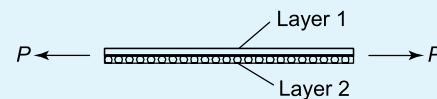

Figure 2.15 Carbon fibre layers
1. Two layers of carbon fibre are stuck to each other, so that their fibres lie at  $90^\circ$  to each other, as shown in Figure 2.15. If a tensile force of 1 kN were applied to this two-layer compound bar, determine the stresses in each. For layer 1,  $E_1 = 300 \text{ GPa}$  and  $A_1 = 10 \text{ mm}^2$